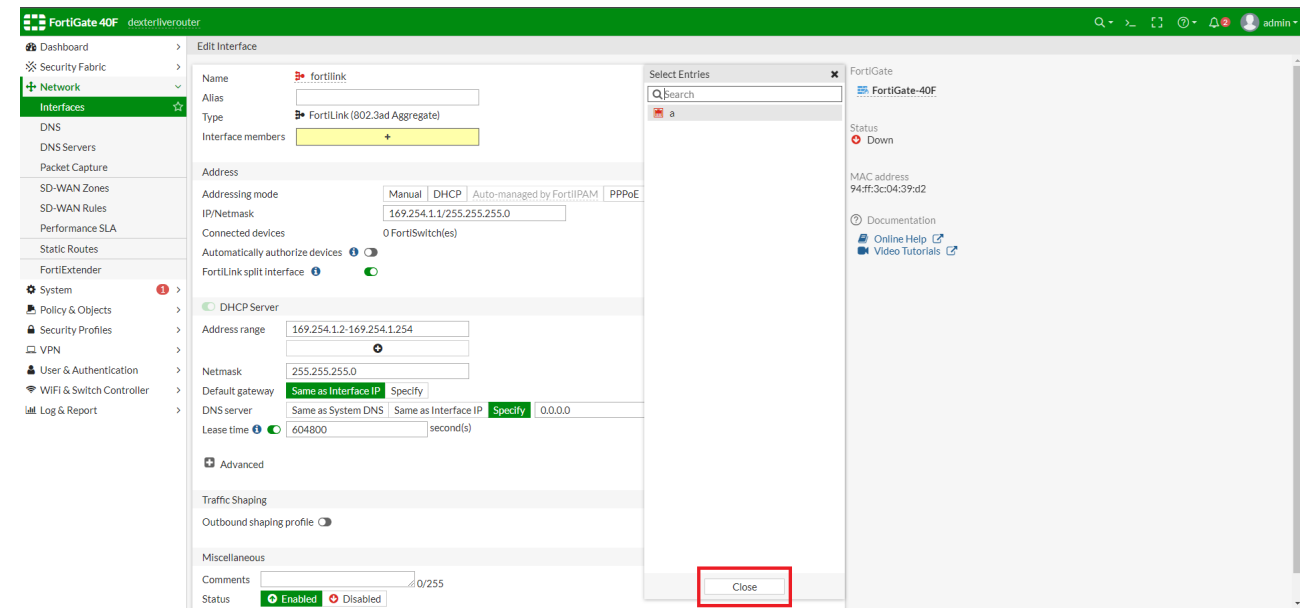

Figure 20
13. Select "Close" in the pop-up "Select Entries" window. (Figure 20)